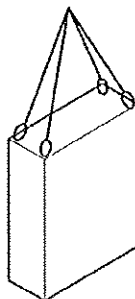

Fig. 13: Transport with a crane
1. ➤ Attach ropes, straps or multi-point suspension gear in accordance with Fig. 13.